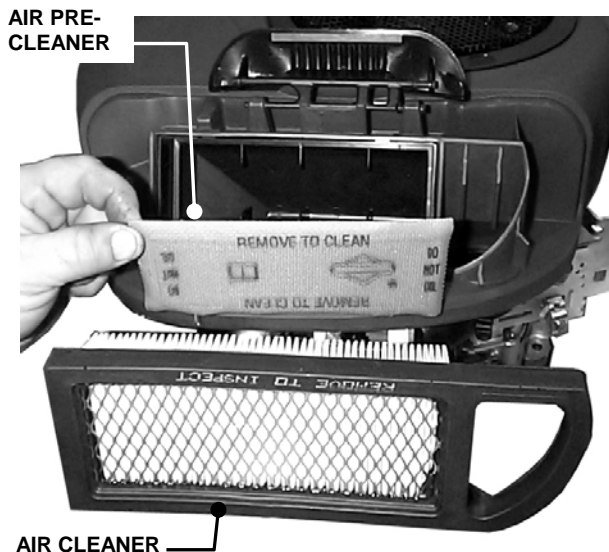

FIGURE 3.5
2. Refer to engine owner's manual for cleaning and service instructions. Remove and clean engine air pre-cleaner. Remove and replace engine air cleaner. See Figure 3.5. Install pre-cleaner and air cleaner per engine owner's manual.